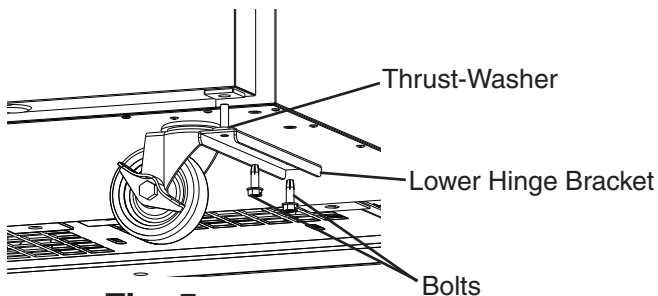

**Fig. 3**
- 2) Open the door to the fully open position, then remove the inner screw from the upper hinge bracket. See Fig. 3.